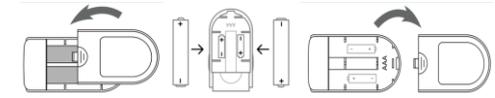

Figure 3. Batteries Installation
- Step 1. Refer to Figure 3. and insert the two AAA size batteries properly in the right